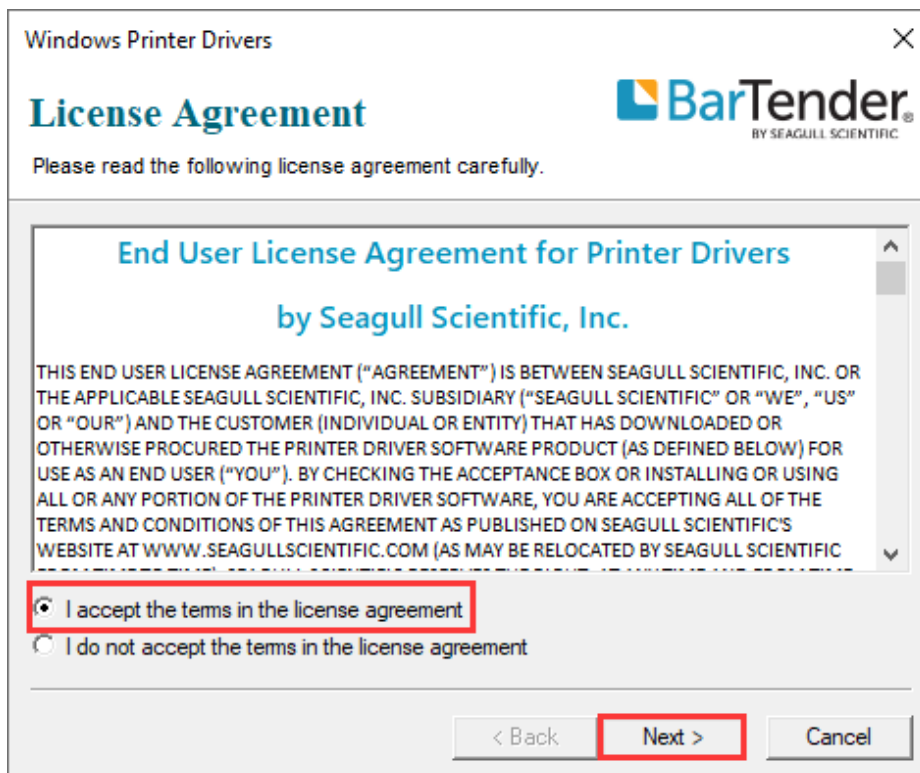

Figure 2-20 License Agreement Screen
3. Double-click the printer driver icon to bring up the “License Agreement” screen. Select “I accept the Items in the license agreement”, then click “Next”, as shown in Figure 2-20.